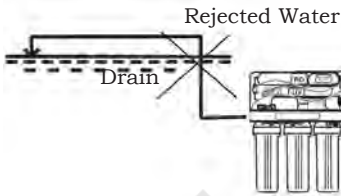

Fig. 4.95
- Make sure that the rejected water pipe is not placed at a level higher than the purifier, otherwise the rejected water may flow backward into the purifier as shown in Fig. 4.95.